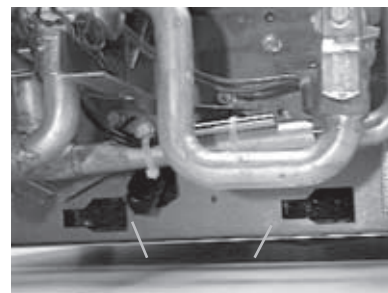

Figure 31. Insert the auxiliary drain pan tabs into these slots in the fan-coil's chassis end panel. A horizontal unit is pictured.
4. Slide the pan horizontally towards the end of the large groove of the mounting slots in the chassis end panel and remove pan from unit. See Figure 31.